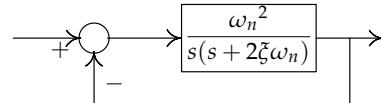

Figure 3: Block diagram of standard second order system for Problem 2.
1. [2 points] For the standard second order system shown in Figure 3, derive the expression for the bandwidth ω_b (same as 3-dB frequency) in terms of ω_n and ζ .